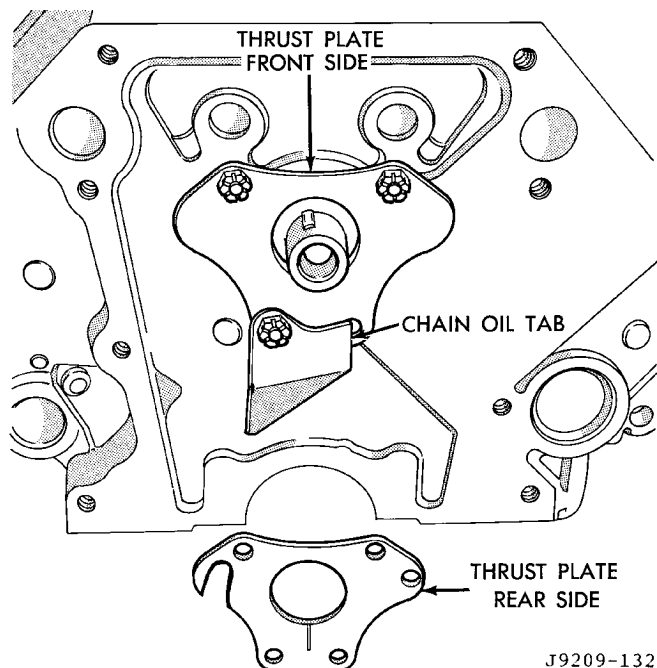

Fig. 28 Timing Chain Oil Tab Installation
(1) Remove intake manifold.
(2) Remove cylinder head covers.
(3) Remove timing case cover and timing chain.
(4) Remove rocker arms.
(5) Remove push rods and tappets. Identify each part so it can be installed in its original location.
(6) Remove distributor and lift out the oil pump and distributor drive shaft.
(7) Remove camshaft thrust plate, note location of oil tab (Fig. 28).
(8) Install a long bolt into front of camshaft to facilitate removal of the camshaft. Remove camshaft,